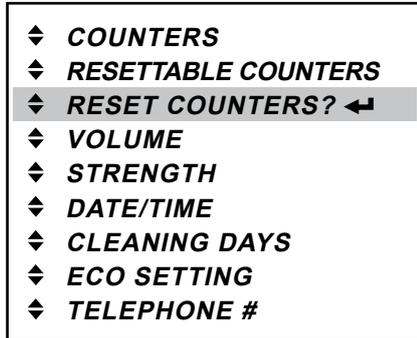

Fig. 34
- In the operator mode, press the enter button **↵** to access the «RESET COUNTERS?» menu (fig. 34).